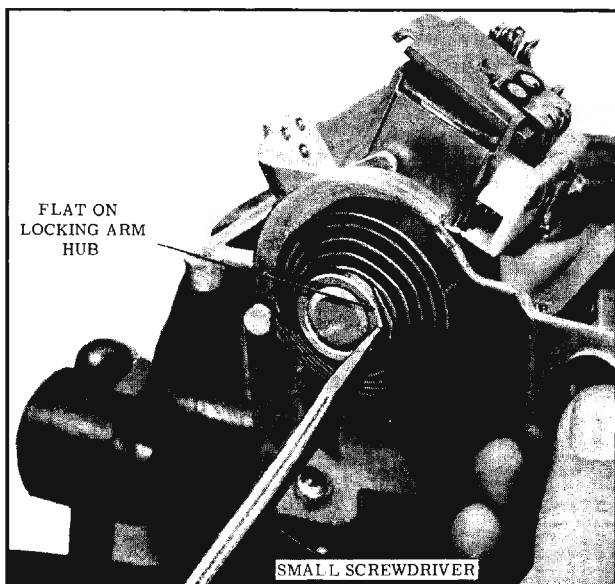

Fig. 13-30 Removing Torsion Spring
15. To remove the torsion spring from the exterior arm, disengage the inner end of the spring coil from the flat on the locking arm hub by inserting a small screwdriver between the coil and the hub. Gently pry the coil out of the notch while removing the exterior arm. (Fig. 13-30)